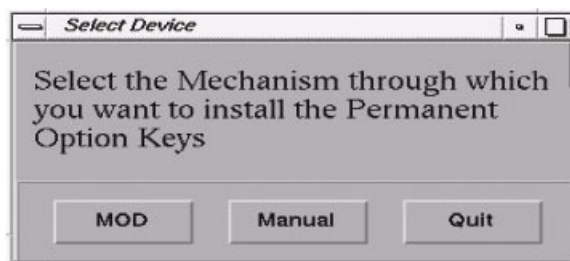

Figure 1-13 Select Device Screen
- 3.) Click on the PERMANENT button. (See Figure 1-13).
- 4.) Click on the MOD button (Figure 1-13).